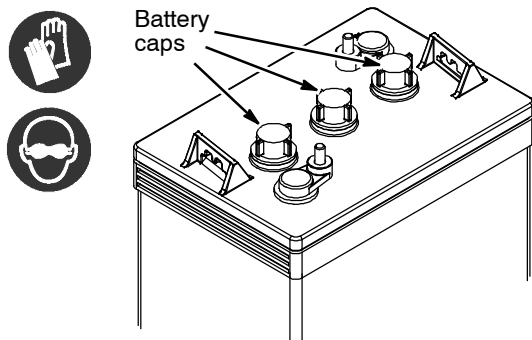

Fig. 1
3. Remove and discard all battery caps from batteries (Figure 1).